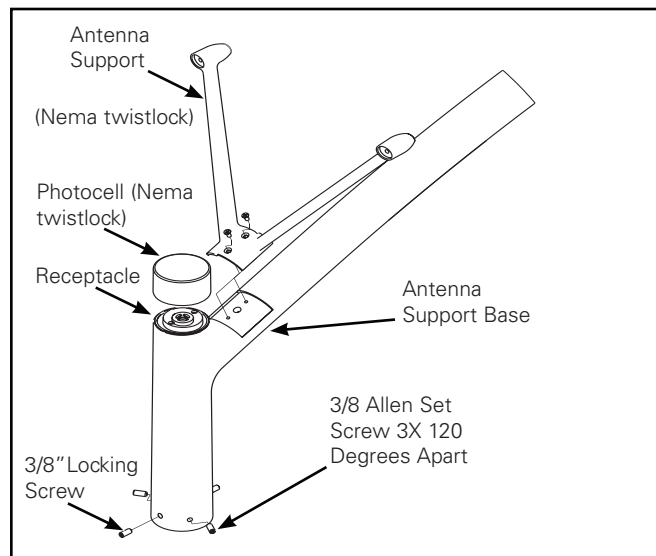

Figure 1.
1. Assemble antenna support base to housing prior to installing luminaire. (Figure 1.) Install using 4 X 1/4-20 screws in recessed area provided.
3. Install NEMA twistlock photocell, supplied, into receptacle. (Figure 1.)